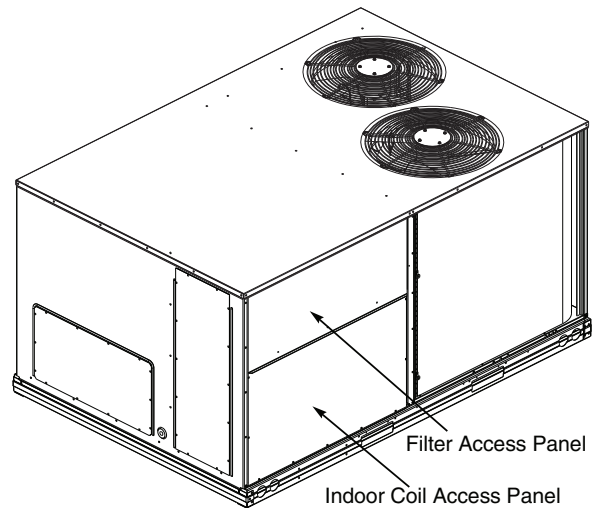

Fig. 10 — Typical Access Panel Locations
2. To gain access to the hood, remove the filter access panel. (See Fig. 10).